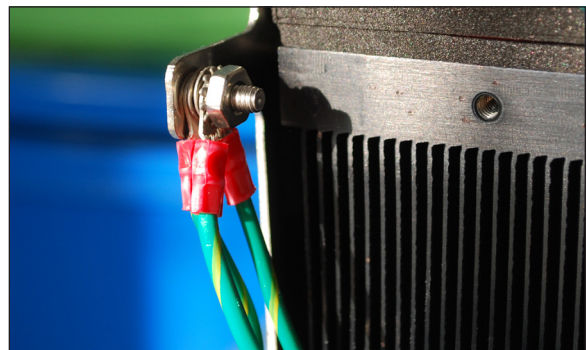

Figure 106 - Step 7 Attach all grounding wires
7. Connect all ground wires to the grounding post (Figure 106).